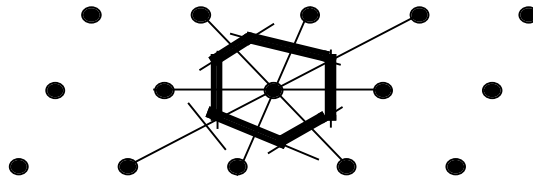

Figure 1.6: Construction of the Wigner-Seitz primitive cell
- (c) Follow the instructions below and construct a Wigner-Seitz cell which is an example of a primitive cell. See Fig. 1.6.